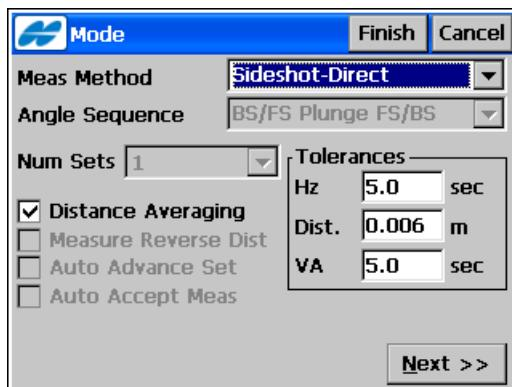

Figure 9-2. Mode
To toggle between sideshot modes (Figure 9-2), press the **Settings** button on any Survey screen. Select one of three measurement methods from the *Meas Method* drop-down list, *Sideshot-Direct*, *Sideshot-Direct/Reverse*, or *Angle/Dist Sets-Dir/Rev*. For a description of other parameters on this screen, see “Survey Parameters: First Screen” on page 3-2 for more information).
- **Settings** – opens the **Mode** screen (see Figure 9-2 on page 9-2).